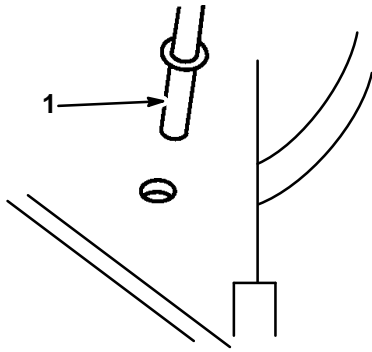

Figure 40
3. Insert chute support rod through hole at right rear of deck (Fig. 40).